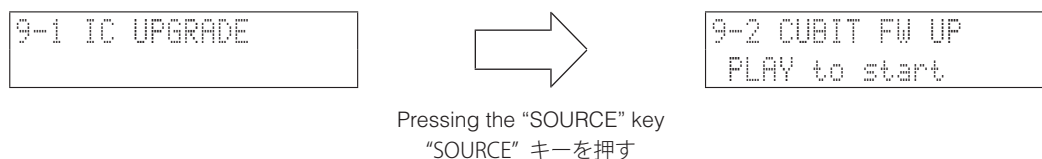

Fig. 1
2. Pressing of the “SOURCE” key and select “9-2 CUBIT FW UP PLAY to start” is displayed. (Fig. 1)
2. “SOURCE” キーを押し、“9-2 CUBIT FW UP PLAY to start”を選択します。(Fig. 1)